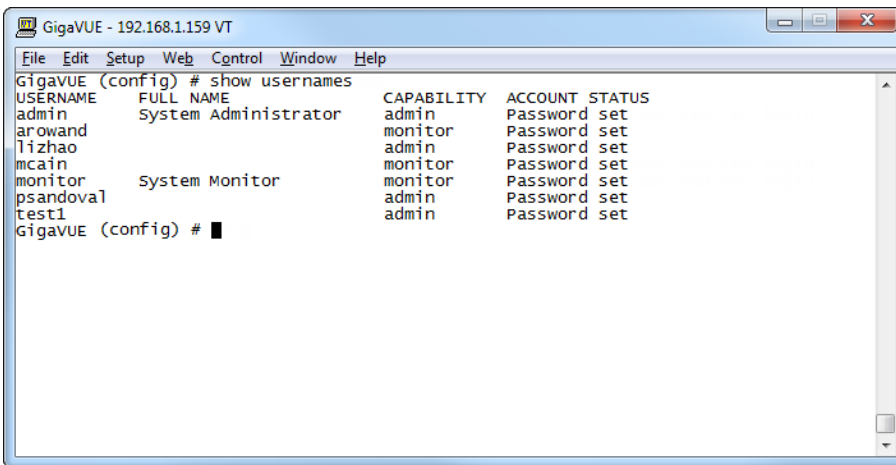

Figure 19 Reviewing the User List
- Once you have configured these basic user accounts, use the **show usernames** command to review your settings. Figure 19 Reviewing the User List shows some sample **show usernames** output after several users have been added.